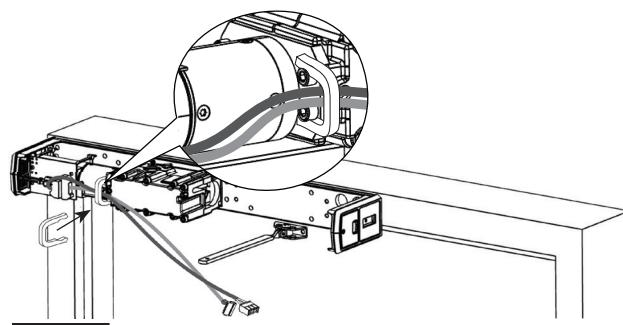

Figure 9
- 2. Using the supplied cable management clip, secure the cables along operator body. (Figure 9)